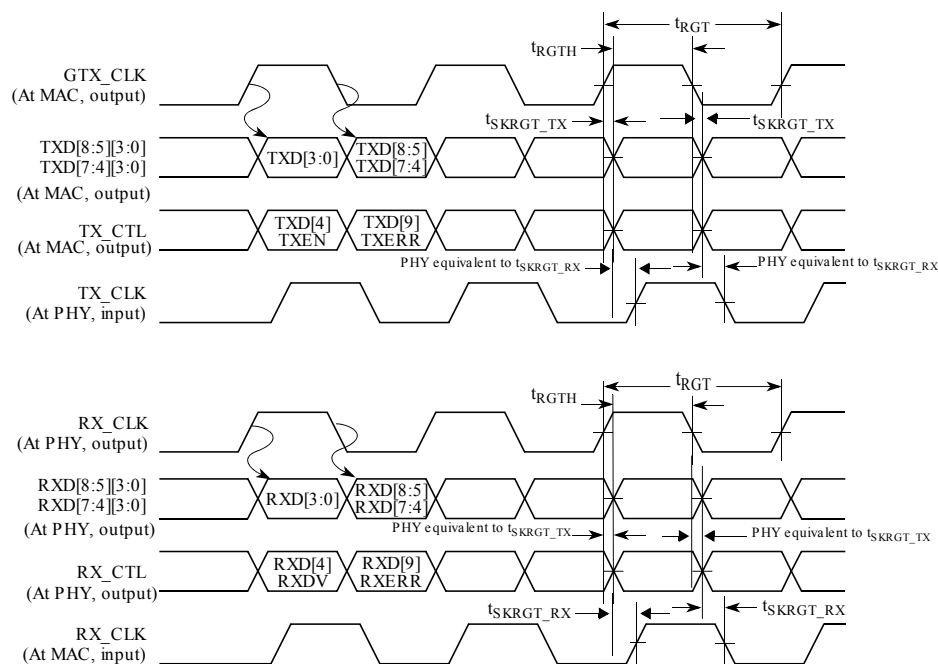

Figure 25. RGMII AC timing and multiplexing diagrams
1. The frequency of ECn_RX_CLK (input) should not exceed the frequency of ECn_GTX_CLK (output) by more than 300 ppm. 2. This implies that PC board design will require clocks to be routed such that an additional trace delay of greater than 1.5 ns is added to the associated clock signal. Many PHY vendors already incorporate the necessary delay inside their device. If so, additional PCB delay is probably not needed. 3. For 10 and 100 Mbps, t_{RGT} scales to 400 ns $\pm$ 40 ns and 40 ns $\pm$ 4 ns, respectively. 4. Duty cycle may be stretched/shrunk during speed changes or while transitioning to a received packet's clock domains as long as the minimum duty cycle is not violated and stretching occurs for no more than three t_{RGT} of the lowest speed transitioned between. 5. Applies to inputs and outputs. 6. The system/board must be designed to ensure this input requirement to the chip is achieved. Proper device operation is guaranteed for inputs meeting this requirement by design, simulation, characterization, or functional testing. 7. In general, the clock reference symbol representation for this section is based on the symbols RGT to represent RGMII timing. Note that the notation for rise (R) and fall (F) times follows the clock symbol that is being represented. For symbols representing skews, the subscript is skew (SK) followed by the clock that is being skewed (RGT). 8. See Figure 25.